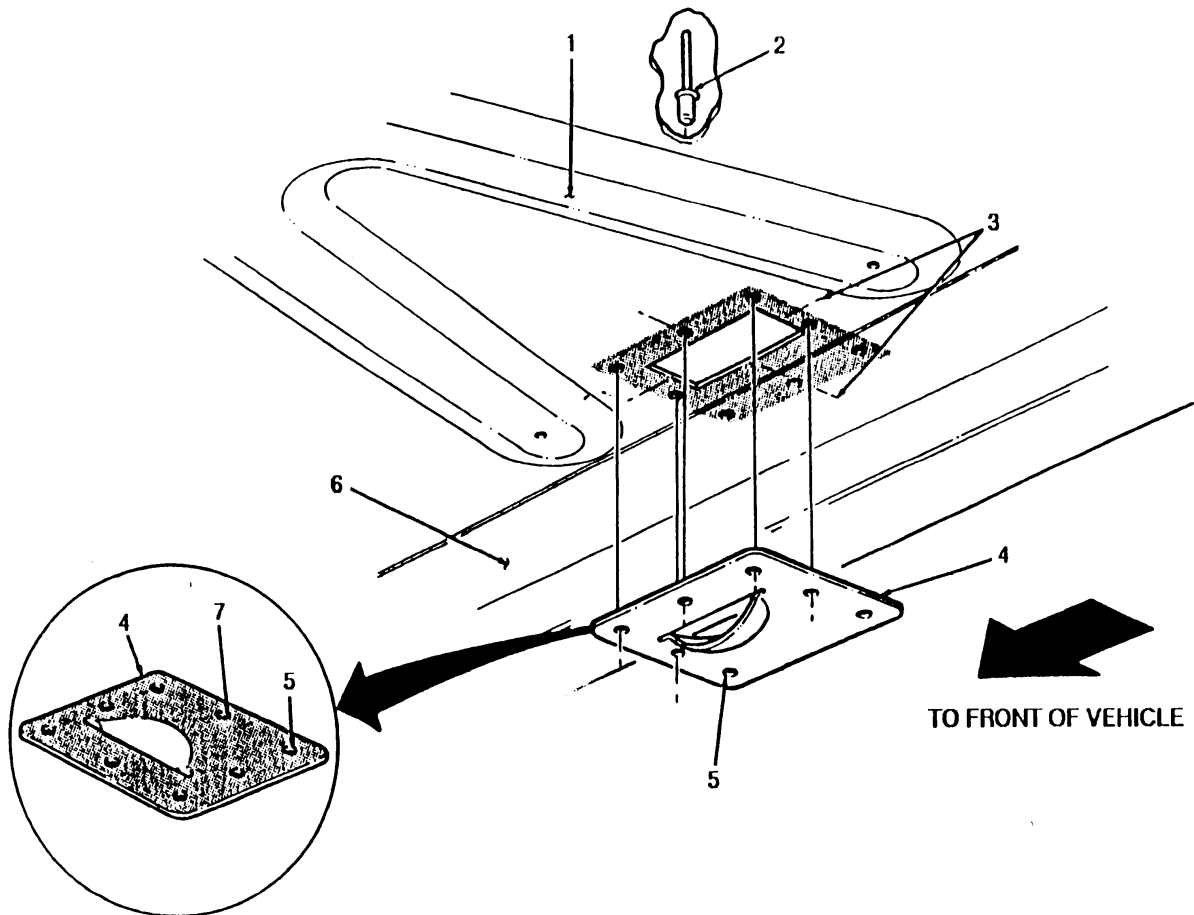
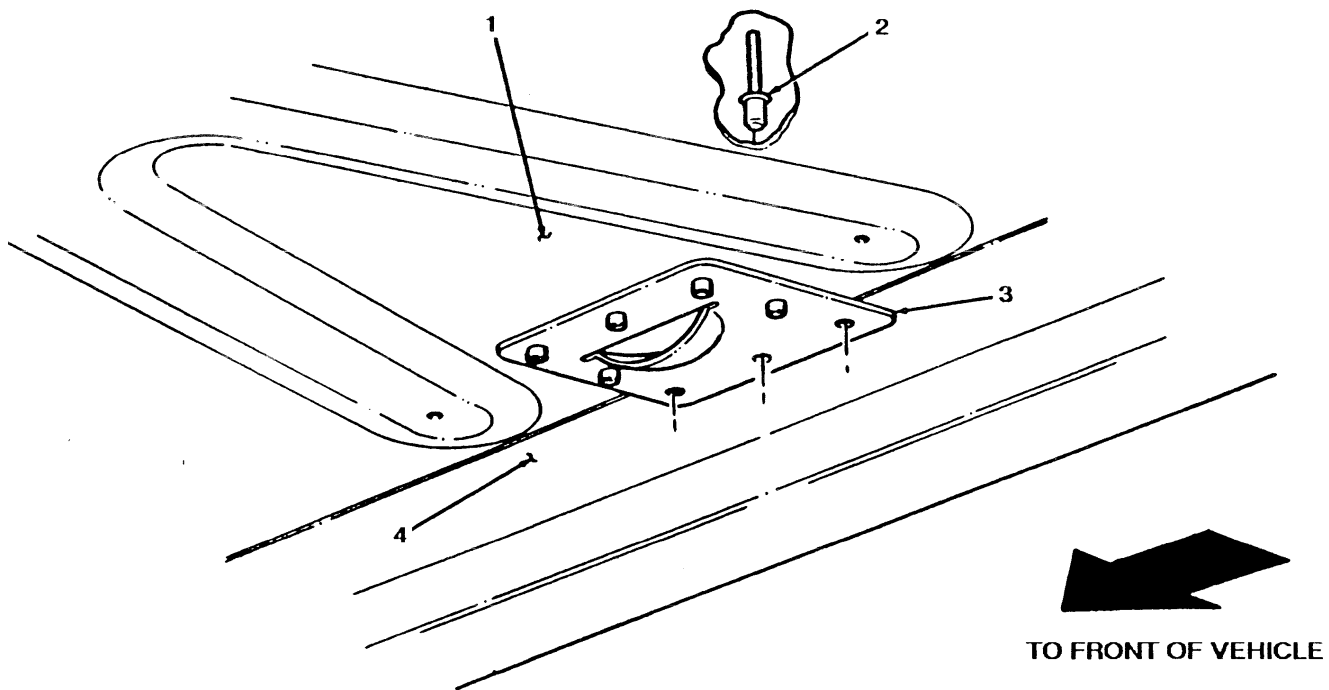

FIGURE 3-16
FIGURE 3-17
- (2) Cut and remove drain hole (2) material from floor panel (5), marked in step 1. Remove sharp edges and burrs from floor panel (5).
- (3) Mark underside of floor panel (1) with two lines (3) centered over damaged floor drain. (see figure 3-16)
- (5) Position P/N 12447129 drain hole plate (4) to the underside of floor panel (1) and side body panel (6). Bend or shape drain hole plate (4) to the contour of floor panel (1) and side body panel (6). (see figure 3-16)
- (6) Using drain hole plate (4) as a template, transfer seven hole locations (5) onto floor panel (1) and side body panel (6). Remove drain hole plate (4).
- (7) Using hole locations marked in step 6., drill seven 0.187-inch diameter holes through underside of floor panel (1) and side body panel (6).
- (8) Enlarge seven template holes (5) to 0.187-inch diameter in drain hole plate (4).
- (9) Apply approximately 0.125-inch thickness of P/N 89616 Silaprene adhesive sealant to shaded mating surfaces on drain hole plate (4).
- (10) Apply approximately 0.125-inch thickness of P/N 89616 Silaprene adhesive sealant to shaded mating surfaces on underside of floor panel (1) and side body panel (6).
- (11) Position drain hole plate (4) to underside of floor panel (1) and side body panel (6).
- (12) Install five NSN 5320-01-271-6357 rivets (2) through floor panel (1) and drain hole plate (4).
- (13) Using rivet hole drilled in step 4., as a template, drill a 0.187-inch diameter hole (7) through drain hole plate (4).
- (14) Install three NSN 5320-01-264-5978 rivets (2) through floor panel (1), side body panel (4), and drain hole plate (3). (see figure 3-17)
- (15) Remove adhesive residue and clean edges on floor panel (1), side body panel (4), and drain hole plate (3).
- (16) Spot paint floor panel (1), side body panel (4), and drain hole plate (3). (Refer to TM 43-0139.)